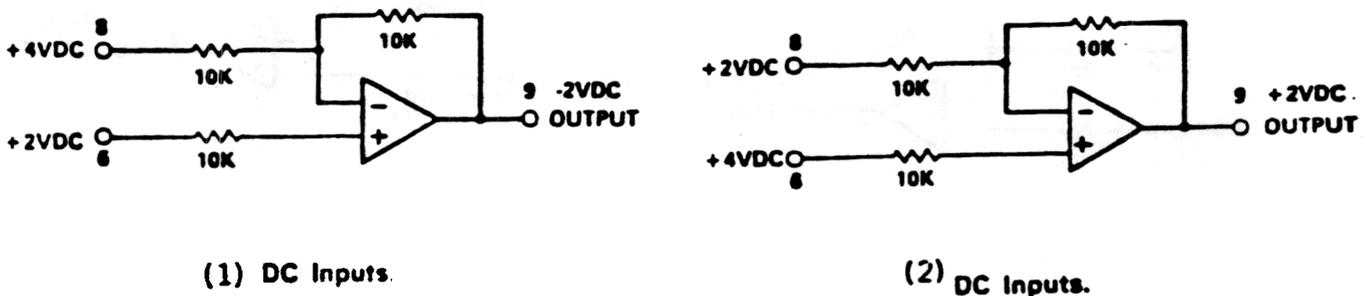

Figure 16A. Differential amplifiers
DC voltages. If the DC voltage applied to inverting terminal is greater in magnitude than the DC voltage applied to the non-inverting terminal, the polarity of the output DC voltage will be opposite the polarity of the greater input. If the DC voltage applied to the non-inverting terminal is greater in magnitude than the magnitude of the DC voltage applied to the inverting terminal, the polarity of the output DC voltage will be the same as the polarity of the greater input. Refer to Figures 16A(1) and (2) for examples.